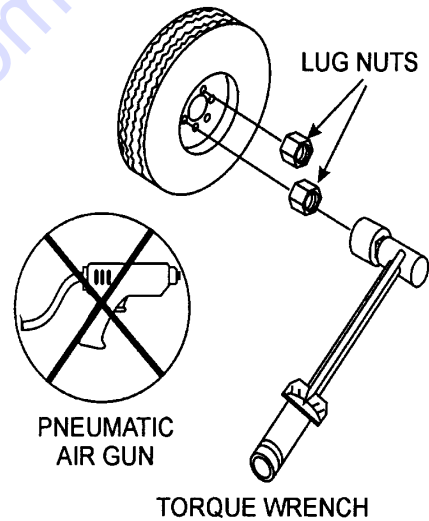

Figure 58. Wheel Lug Nuts Tightening Sequence
2. Torque all lug nuts in sequence (see Figure 58). **DO NOT** torque the wheel lug nuts all the way down. Tighten each lug nut in 3 separate passes as defined by Table 18.